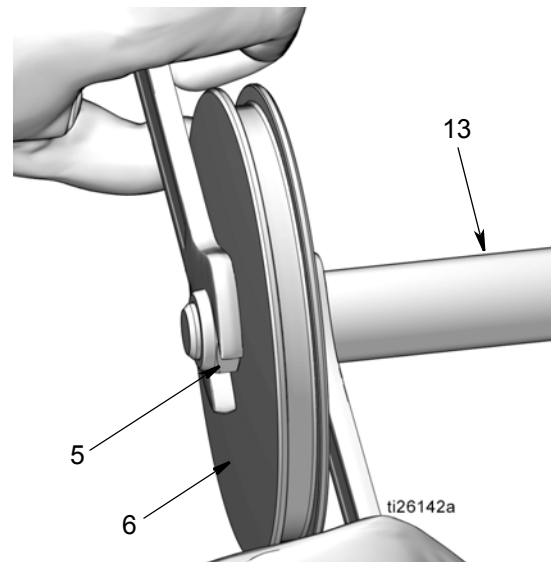

FIG. 48
- Install nut (5) over the end of the piston rod (13). Use two wrenches, working in opposite directions to tighten the nut. Secure one open end wrench to flats of piston rod and use the second wrench to tighten the nut (5) as shown in FIG. 48.
**NOTE:** The open end wrench secured to the flats of the piston rod is only used to hold the rod securely, do **not** rotate this wrench. Moving this wrench could scratch or damage the surface of the piston and cause fluid leaks during pump operation. Only move the wrench holding the nut (5) to tighten the nut. Torque nut to 15 to 17 ft. lbs (20.3 to 23.1 N•m).